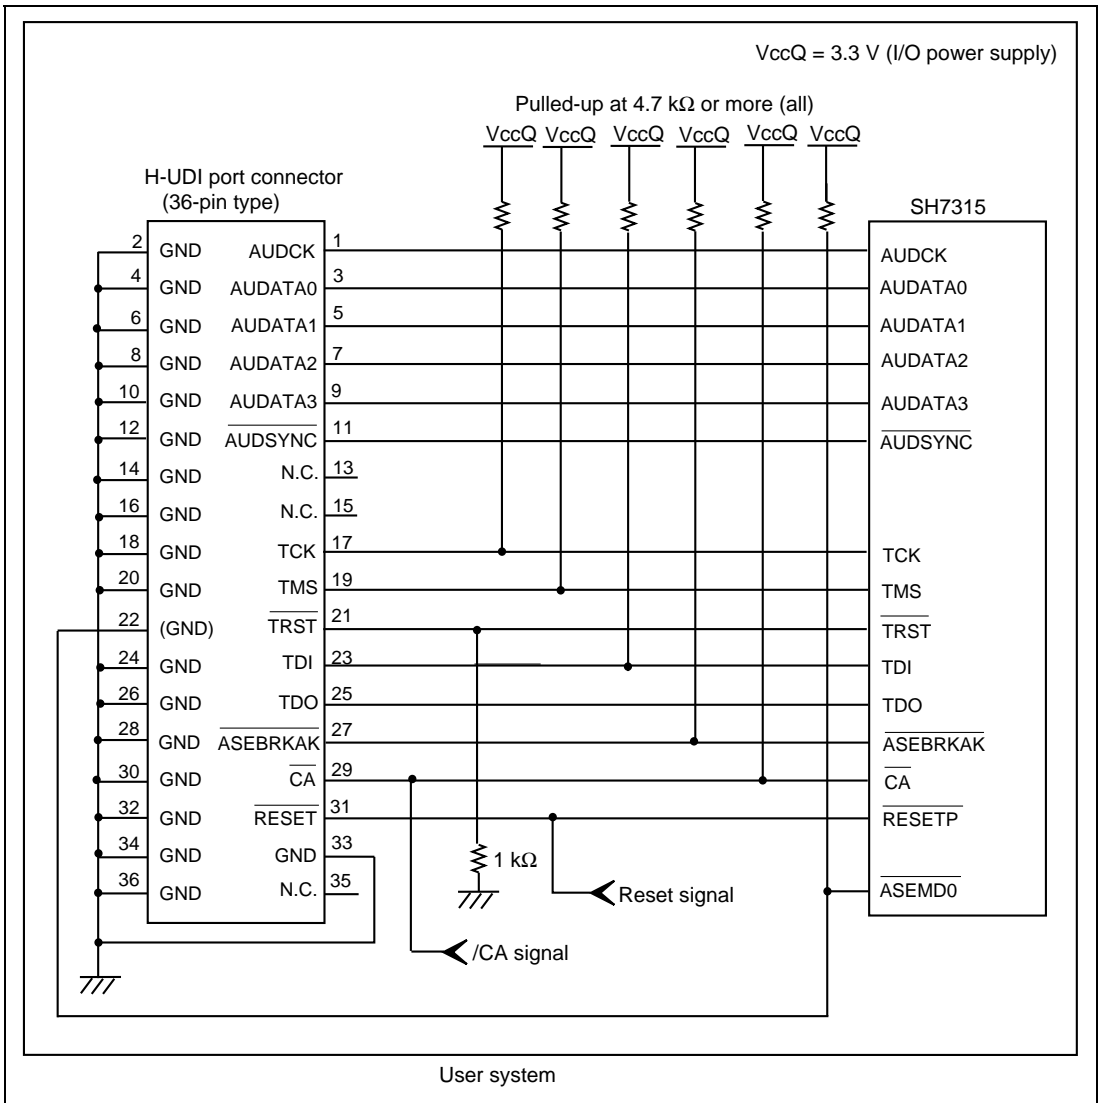

Figure 1.4 Recommended Circuit for Connection between the H-UDI Port Connector and MPU when the Emulator is in Use (36-Pin Type UVCC Not Connected)
9. Changing the emulator switches ($SW2 = 0$ and $SW3 = 0$) allows pin 29 to be used as the /CA pin. With this setting, supplying the VccQ to the UVCC pin is not available. Thus the I/O voltage level of the user system interface will be fixed to 3.3 V. Pin 15 must be N.C (open), as shown in figure 1.4.
When the circuit is connected as shown in figure 1.4, the switches of the emulator are set as SW2 = 0 and SW3 = 0. For details, refer to section 3.8, Setting the DIP Switches, in the Debugger Part of the SuperH™ Family E10A-USB Emulator User's Manual.